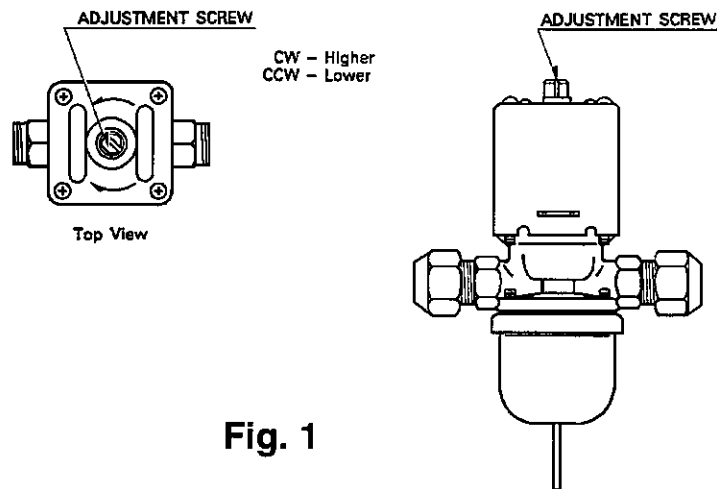

Fig. 1
- 2) Rotate the adjustment screw by using a flat blade screwdriver, so that the pressure gauge shows 235 PSIG or the thermometer reads 104–115° F, 5 minutes after a freeze cycle or icemaking process starts. When the pressure exceeds 235 PSIG, or the condenser drain temperature exceeds 115° F, rotate the adjustment screw counterclockwise. See Fig. 1.